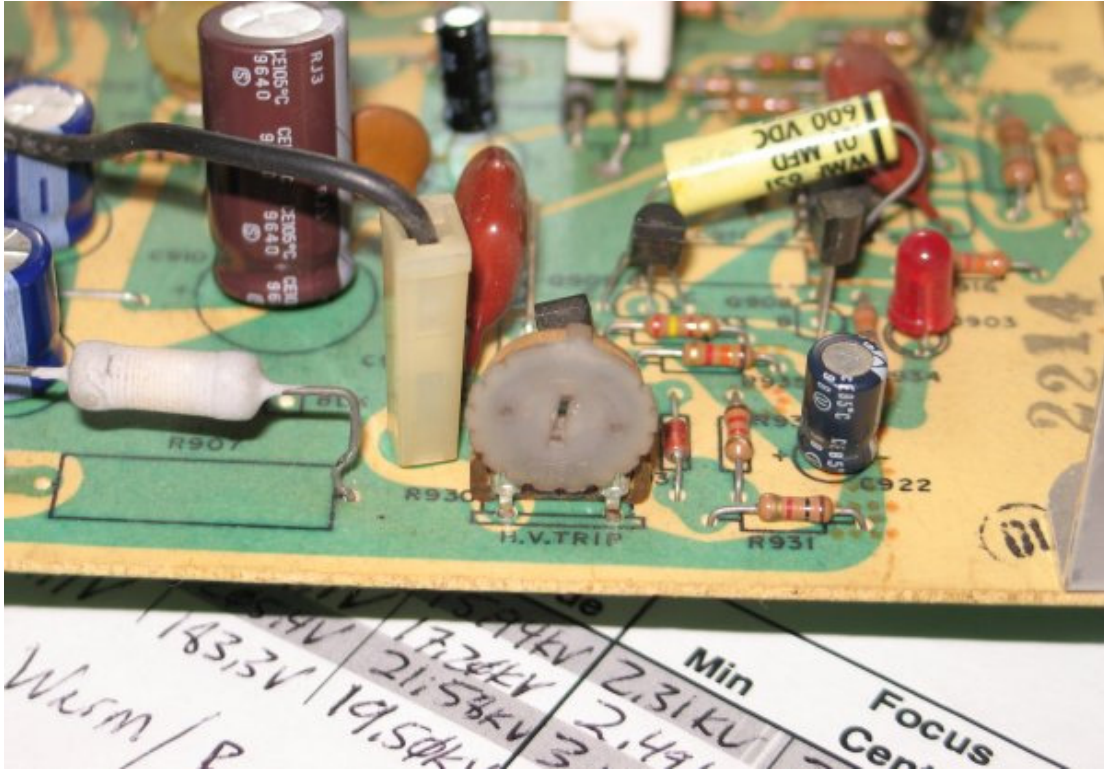

Figure 2: R930 HV Trip Adjustment
1. Set the HV Trip adjustment (R930) fully counter-clockwise (see Figure 2).